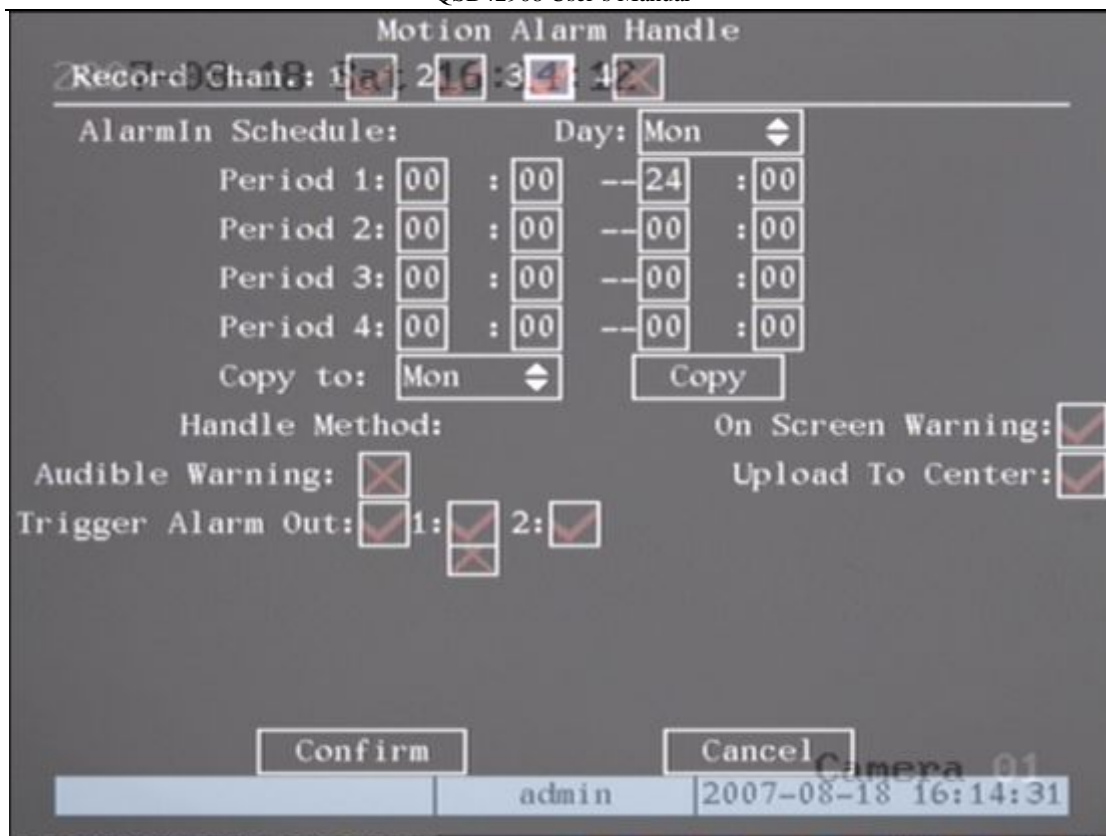

Fig 5.18 Motion alarm handle setup
**Step 5: Motion alarm policy:** Move “Active Frame” to the corresponding “Policy” button of motion detection alarm, press **【ENTER】** key to enter into “Motion Alarm Handle” menu shown as fig 5.18